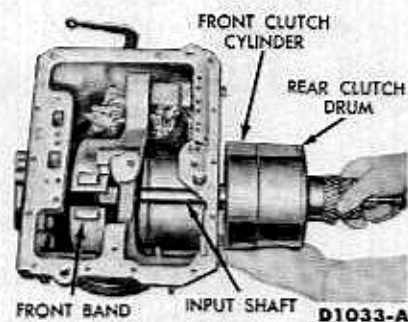

FIG. 5—Input Shaft and Clutch Removal or Installation
16. Exert enough pressure on the end of the turbine shaft to hold the clutch units together. Then remove the center support, front and rear clutch assemblies as a unit (Fig. 5).
Coat the outer diameter of a new seal with FoMoCo Sealing Compound, or its equivalent, and position the seal in the extension housing counterbore. **The felt side of the seal must be toward the rear.** Drive the seal into place with the tool shown in Fig. 5, Part 6-4, until it is firmly seated in the counterbore.